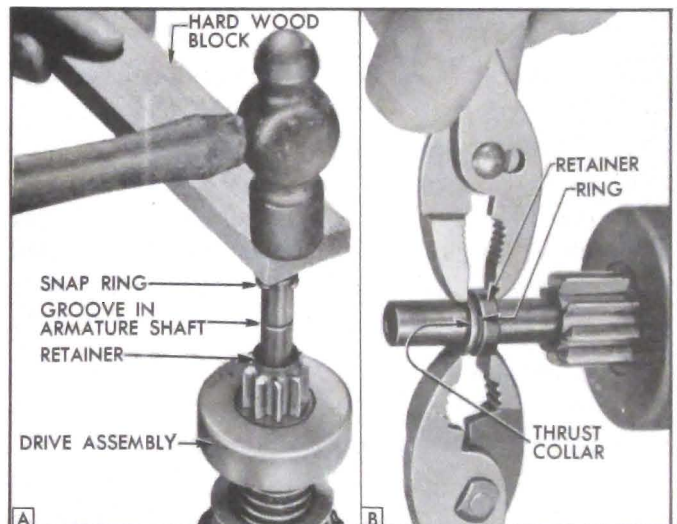

Figure 10-40—Pinion Stop Retainer and Snap Ring Installation
3. Stand armature on commutator and place a *new* snap ring on drive end of shaft and hold it in place with a hard wood block. Strike block with hammer to force snap ring over end of shaft, then slide the ring down into groove in shaft. See figure 10-40, view A.
4. Place thrust collar on shaft with shoulder next to snap ring, and move the retainer into contact with ring also. Using pliers on opposite sides of shaft squeeze retainer and thrust collar together until snap ring is forced into the retainer. See figure 10-40, view b.